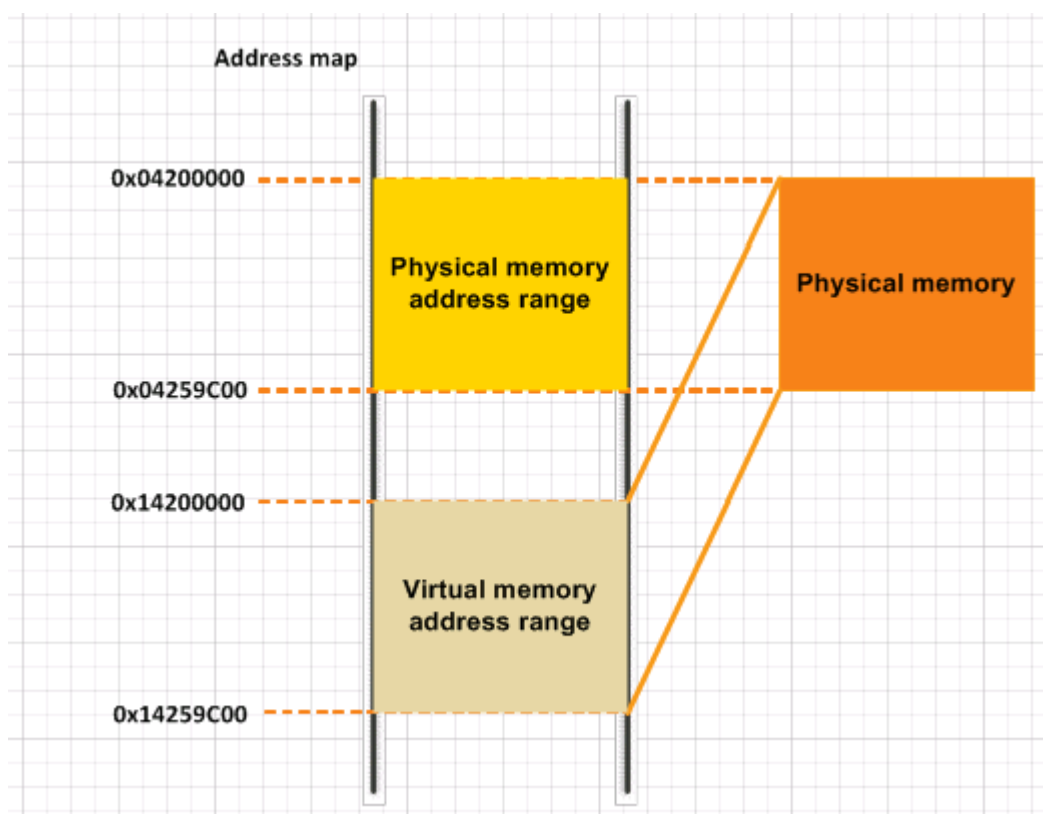

Figure 3.5-1 MT7682 virtual memory mapping
The virtual memory on the MT7682 is provided for cacheable memory and is implemented based on the memory mapping mechanism of ARM Cortex-M4. The virtual address range from 0x14200000 to 0x14259C00 is mapped to the SYSRAM address range from 0x04200000 to 0x04259C00, as shown in Figure 3.5-1. The virtual memory region (0x14200000 ~ 0x14259C00) is used as cacheable memory. All read-write (RW) data is stored in this region by default.